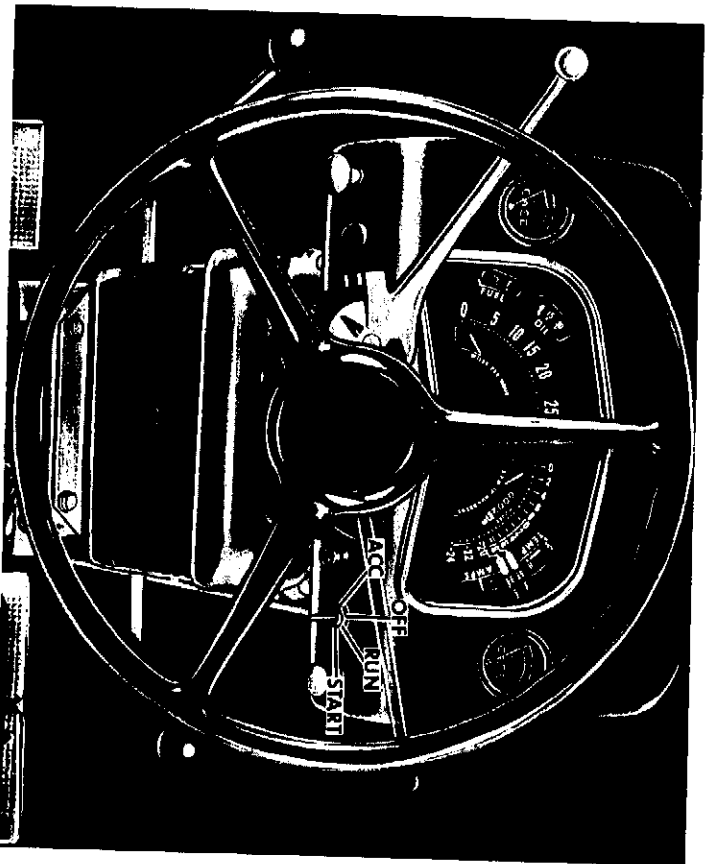

Figure 30
1. Turn and hold the starter key in the manifold heater (extreme left) ACC position for 30 seconds, Figure 30.